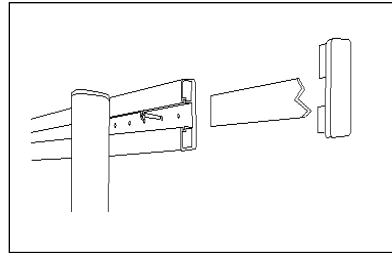

Figure 1
1. Remove one end cap from each horizontal crosspiece of the frame using a flat-head screwdriver. Slide out the cover strips to access the bolt holes. (see Figure 1) Fasteners are not included. Locate fasteners to suit wall construction. Installation must be adequate for a 250 lb. user.